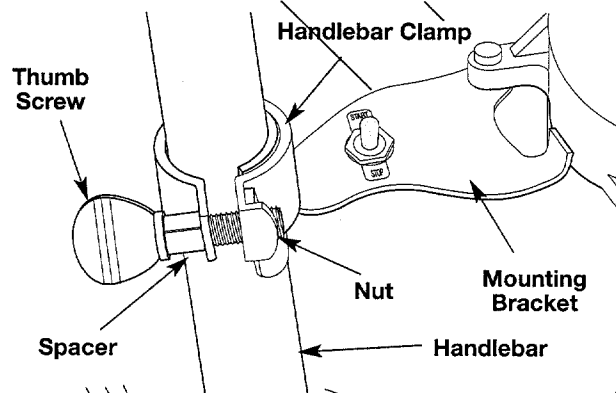

Figure 7
6. Slide the two (2) handlebar clamps down over the mounting brackets. See Figure 7.
7. Center the handlebar and tighten the two (2) mounting bracket clamps and the four (4) handlebar clamp screws evenly until the handlebar is secure. See Figures 7 and 8.